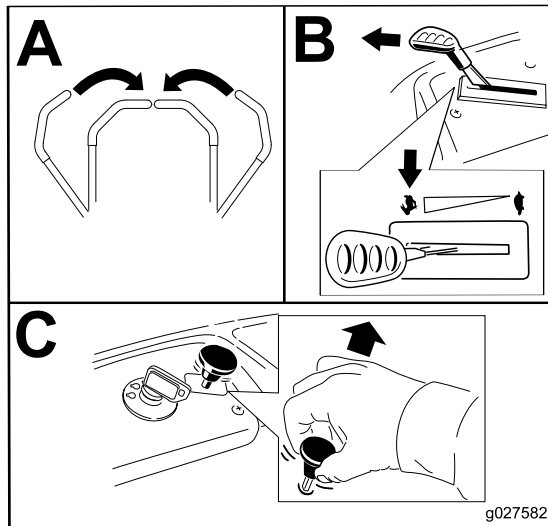

Figure 12
2. Move the throttle lever to the Fast position (Figure 12).